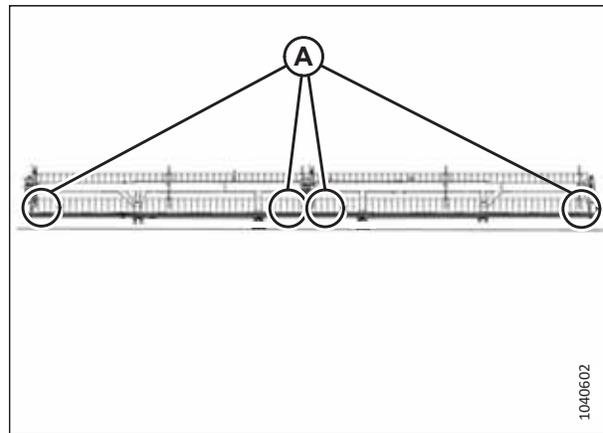

Figure 5.126: Double-Reel Measurement Locations
- Figure 5.126, page 272 – double reel